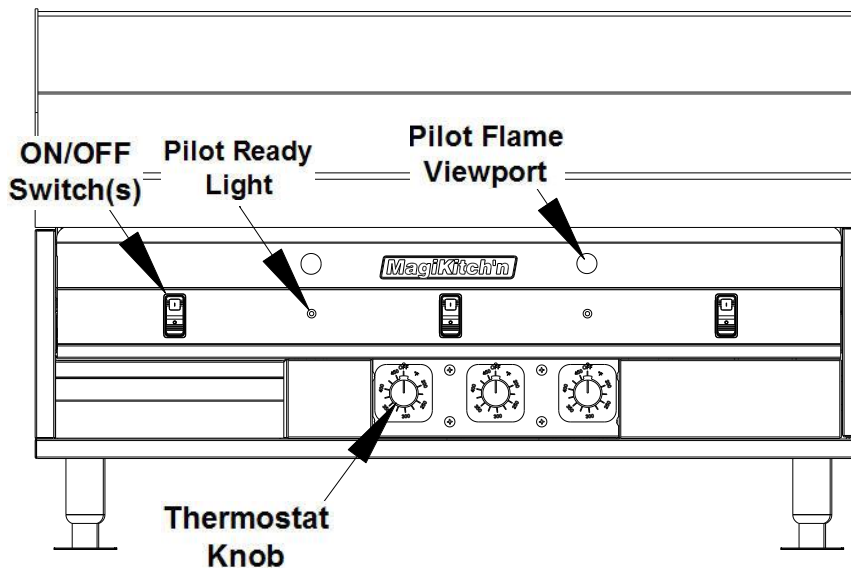

Figure 7
3. Turn the **RED** “I/O” switch to the “I” (ON) position for all desired Thermostats to be operated, See Figure 7. When the Pilot ready (Yellow) light illuminates, the pilot(s) are ready to operate the main burners.